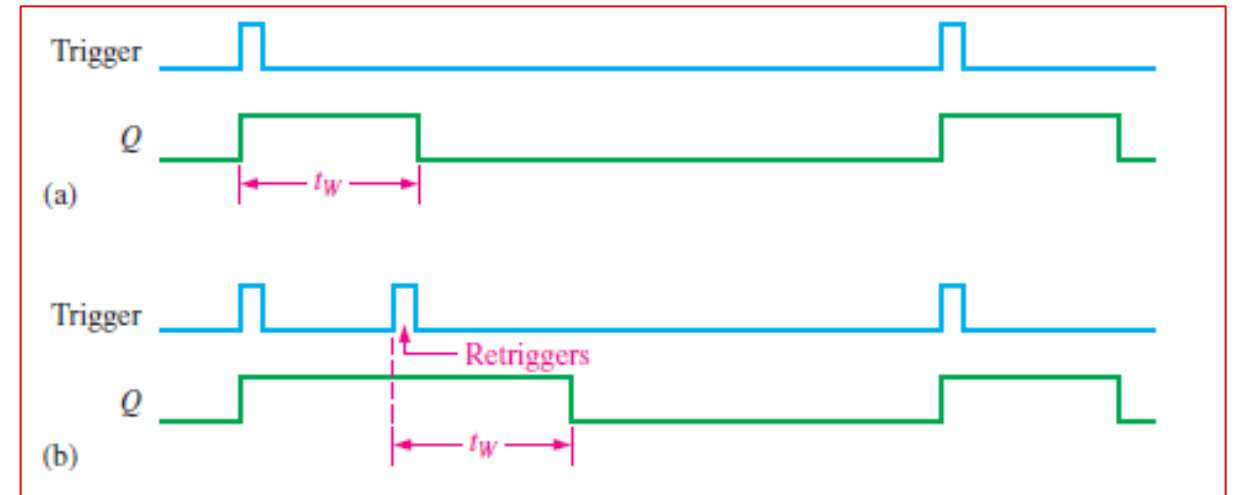

FIGURE 46 Retriggerable one-shot action.
- A retriggerable one-shot can be triggered before it times out. The result of retriggering is an extension of the pulse width as illustrated in Figure 46.